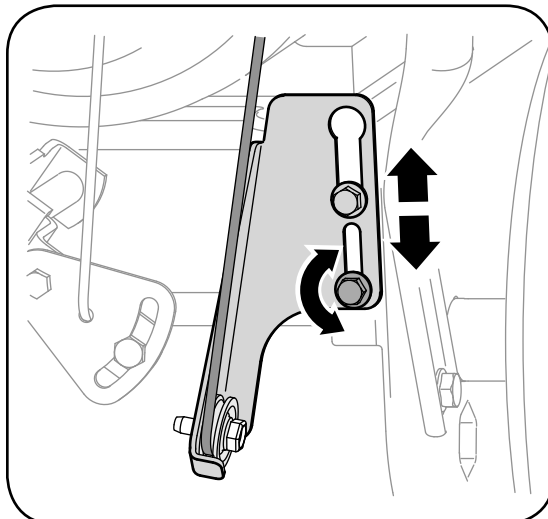

Figure 15
5. Loosen the lower hex nut on the drive cable bracket. See Figure 15.
4. If adjustment is necessary, loosen the lower hex nut on the drive cable index bracket and pivot the bracket upward or downward as necessary. Refer to Figure 15. Tighten the lower hex nut to secure the bracket when correct adjustment is reached.